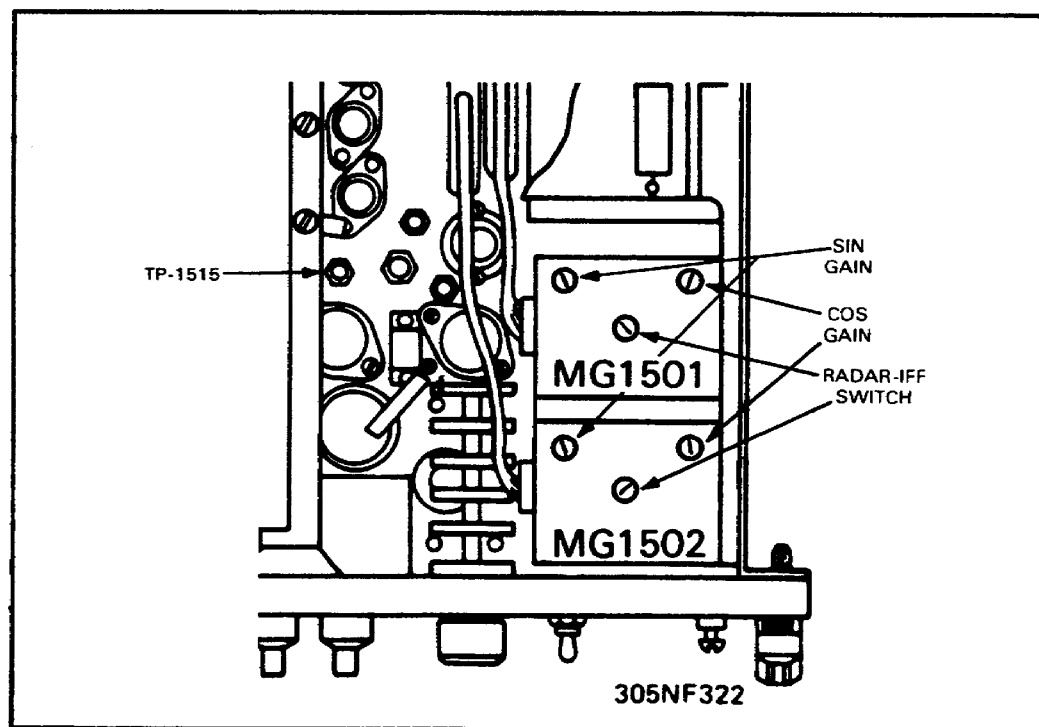

Figure 20. Connection of multimeter to TP-1515.
m. Connect the multimeter to IFF sin test point TP-1515 and observe the voltage indication. (See Figure 20.)